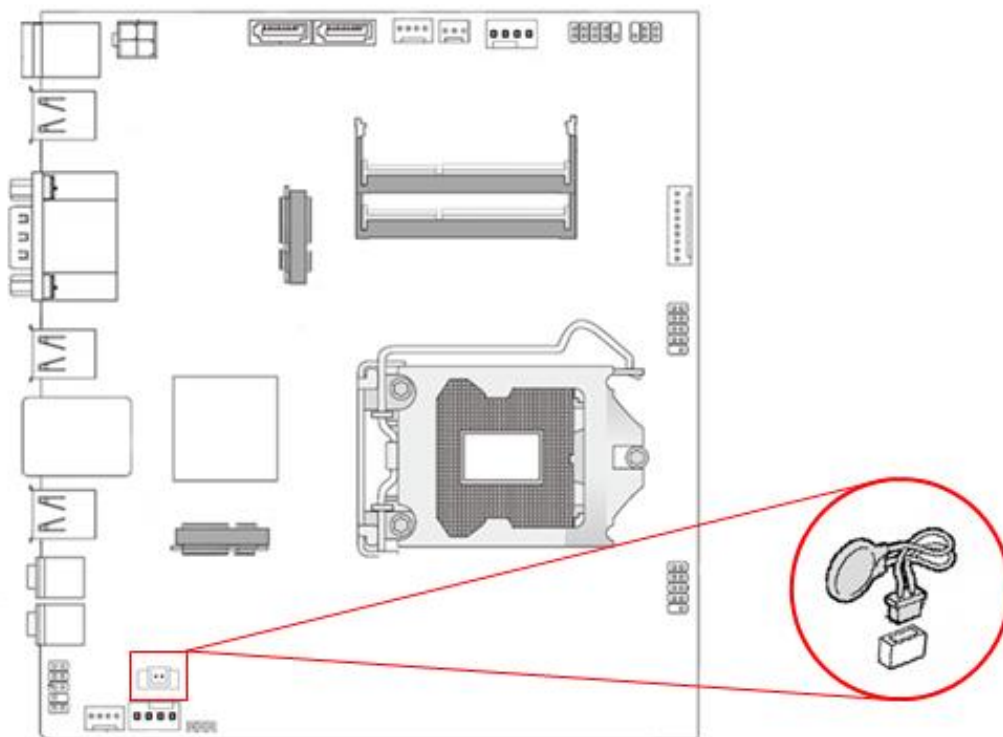

Figure 21: Removing the Battery
5. Figure 21 shows the battery location. Gently pry the battery free from its socket.